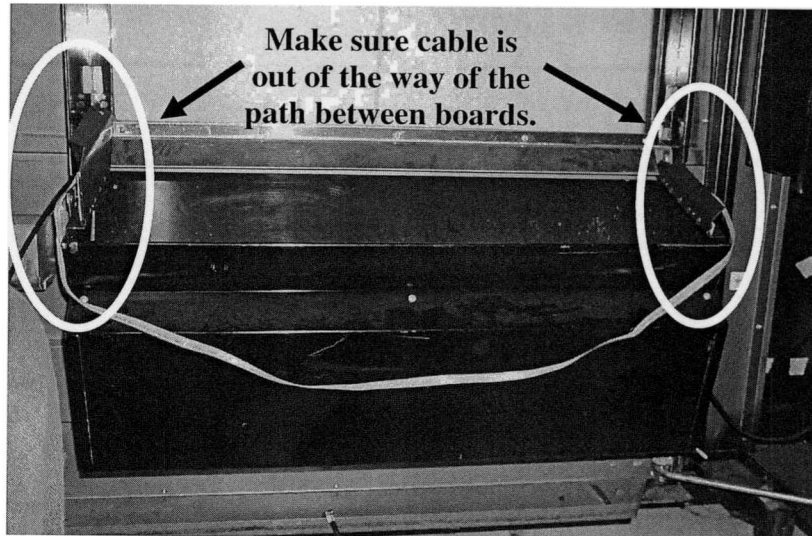

Figure 5.
5. Confirm these two boards are connected with the Sensor Board Cable. The connectors are polarized so please take note to how they are plugged in. The cable should run along the outside of the bin. Wire clasps are provided if needed. Make sure that this cable is OUTSIDE of the bin and not in the path of the boards. The two boards should be able to “see” each other with no obstructions. Refer to Figure 5.